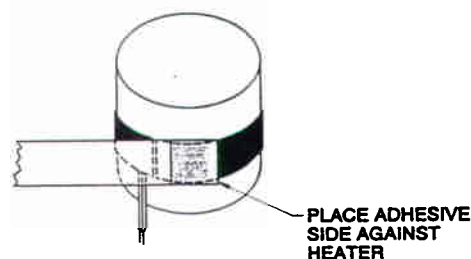

Figure 2
2. Position the Thermofoil™ heater on the cylinder and secure the short adhesive end of the band over the heater. See Figure 2.